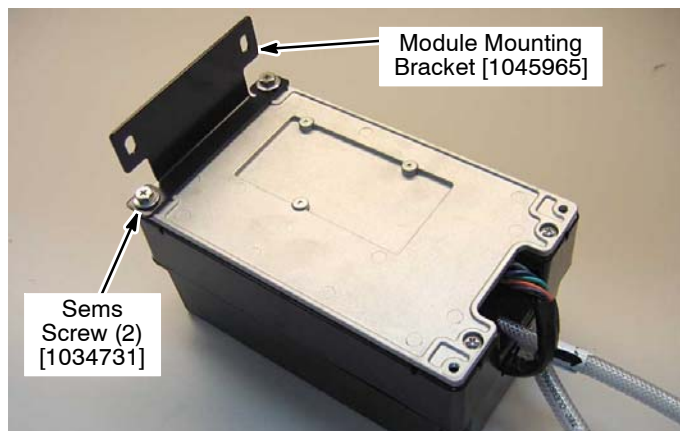

Fig. 34
1. Using two m6x1.00x16 sems screws, attach the ec-H2O module mounting bracket to the ec-H2O module as shown (Figure 34).